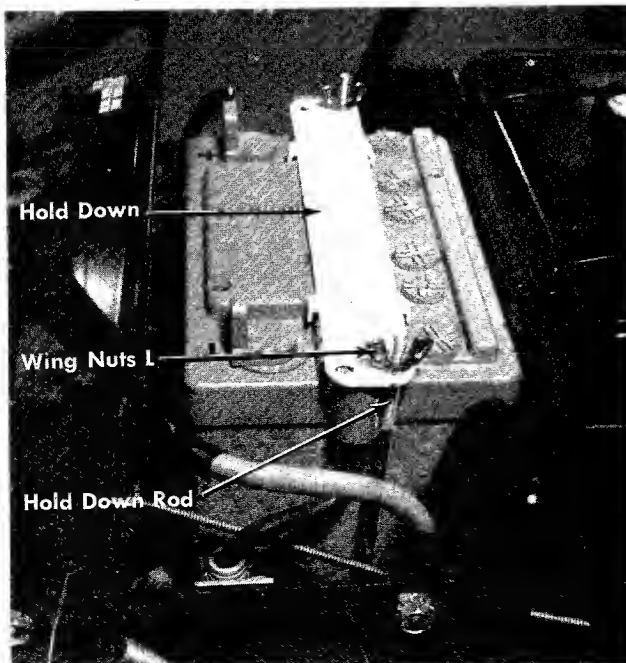

FIGURE 6.
- Step 1. Place the battery in the battery case with the terminals to the rear. (See figure 6.)
- Step 3. Secure the hold down with the wing nuts "L". Tighten hand tight. (See figure 6.)